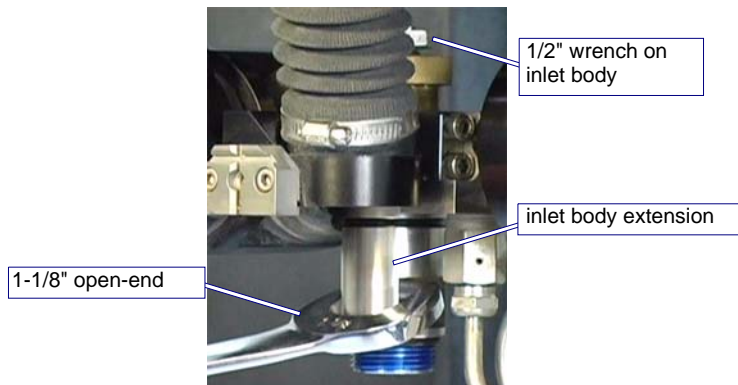

Figure 6-77: Removing the Inlet Body Extension from the Inlet Body
2. Using a **1-1/8" open-end wrench** placed on the **inlet body extension** (Figure 6-77), unscrew the right-hand threaded **inlet body extension** from the **inlet body**.